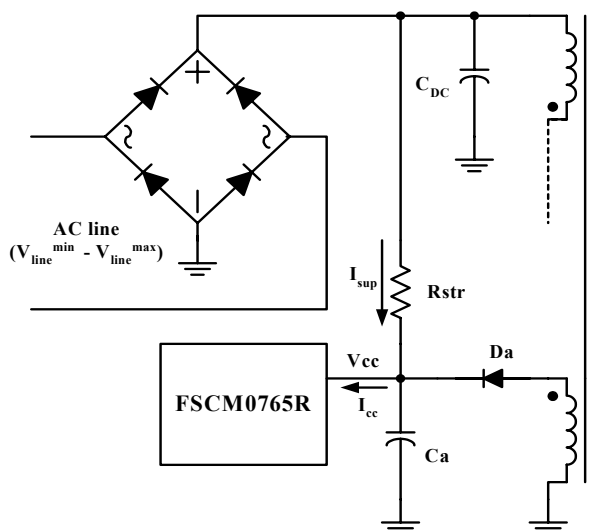
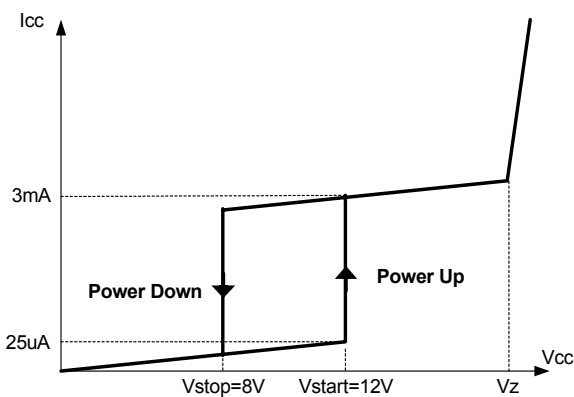

Figure 4. Startup circuit
Figure 5. Relation between operating supply current and V_{cc} voltage
1. Startup : Figure 4 shows the typical startup circuit and transformer auxiliary winding for FSCM0765R application. Before FSCM0765R begins switching, FSCM0765R consumes only startup current (typically 25uA) and the current supplied from the DC link supply current consumed by FPS (I_{cc}) and charges the external capacitor (C_a) that is connected to the V_{cc} pin. When V_{cc} reaches start voltage of 12V (V_{START}), FSCM0765R begins switching, and the current consumed by FSCM0765R increases to 3mA. Then, FSCM0765R continues its normal switching operation and the power required for this device is supplied from the transformer auxiliary winding, unless V_{cc} drops below the stop voltage of 8V (V_{STOP}). To guarantee the stable operation of the control IC, V_{cc} has under voltage lockout (UVLO) with 4V hysteresis. Figure 5 shows the relation between the current consumed by FPS (I_{cc}) and the supply voltage (V_{cc}).